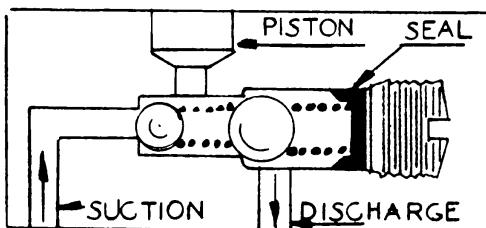

Fig. 25 Replacing Springs and Balls
2. Drop small pump valve ball in pump valve chamber followed by small spring. (See Fig. 25 Page 38)
3. Drop large ball followed by large spring into pump valve chamber. (See Fig. 25 Page 38)